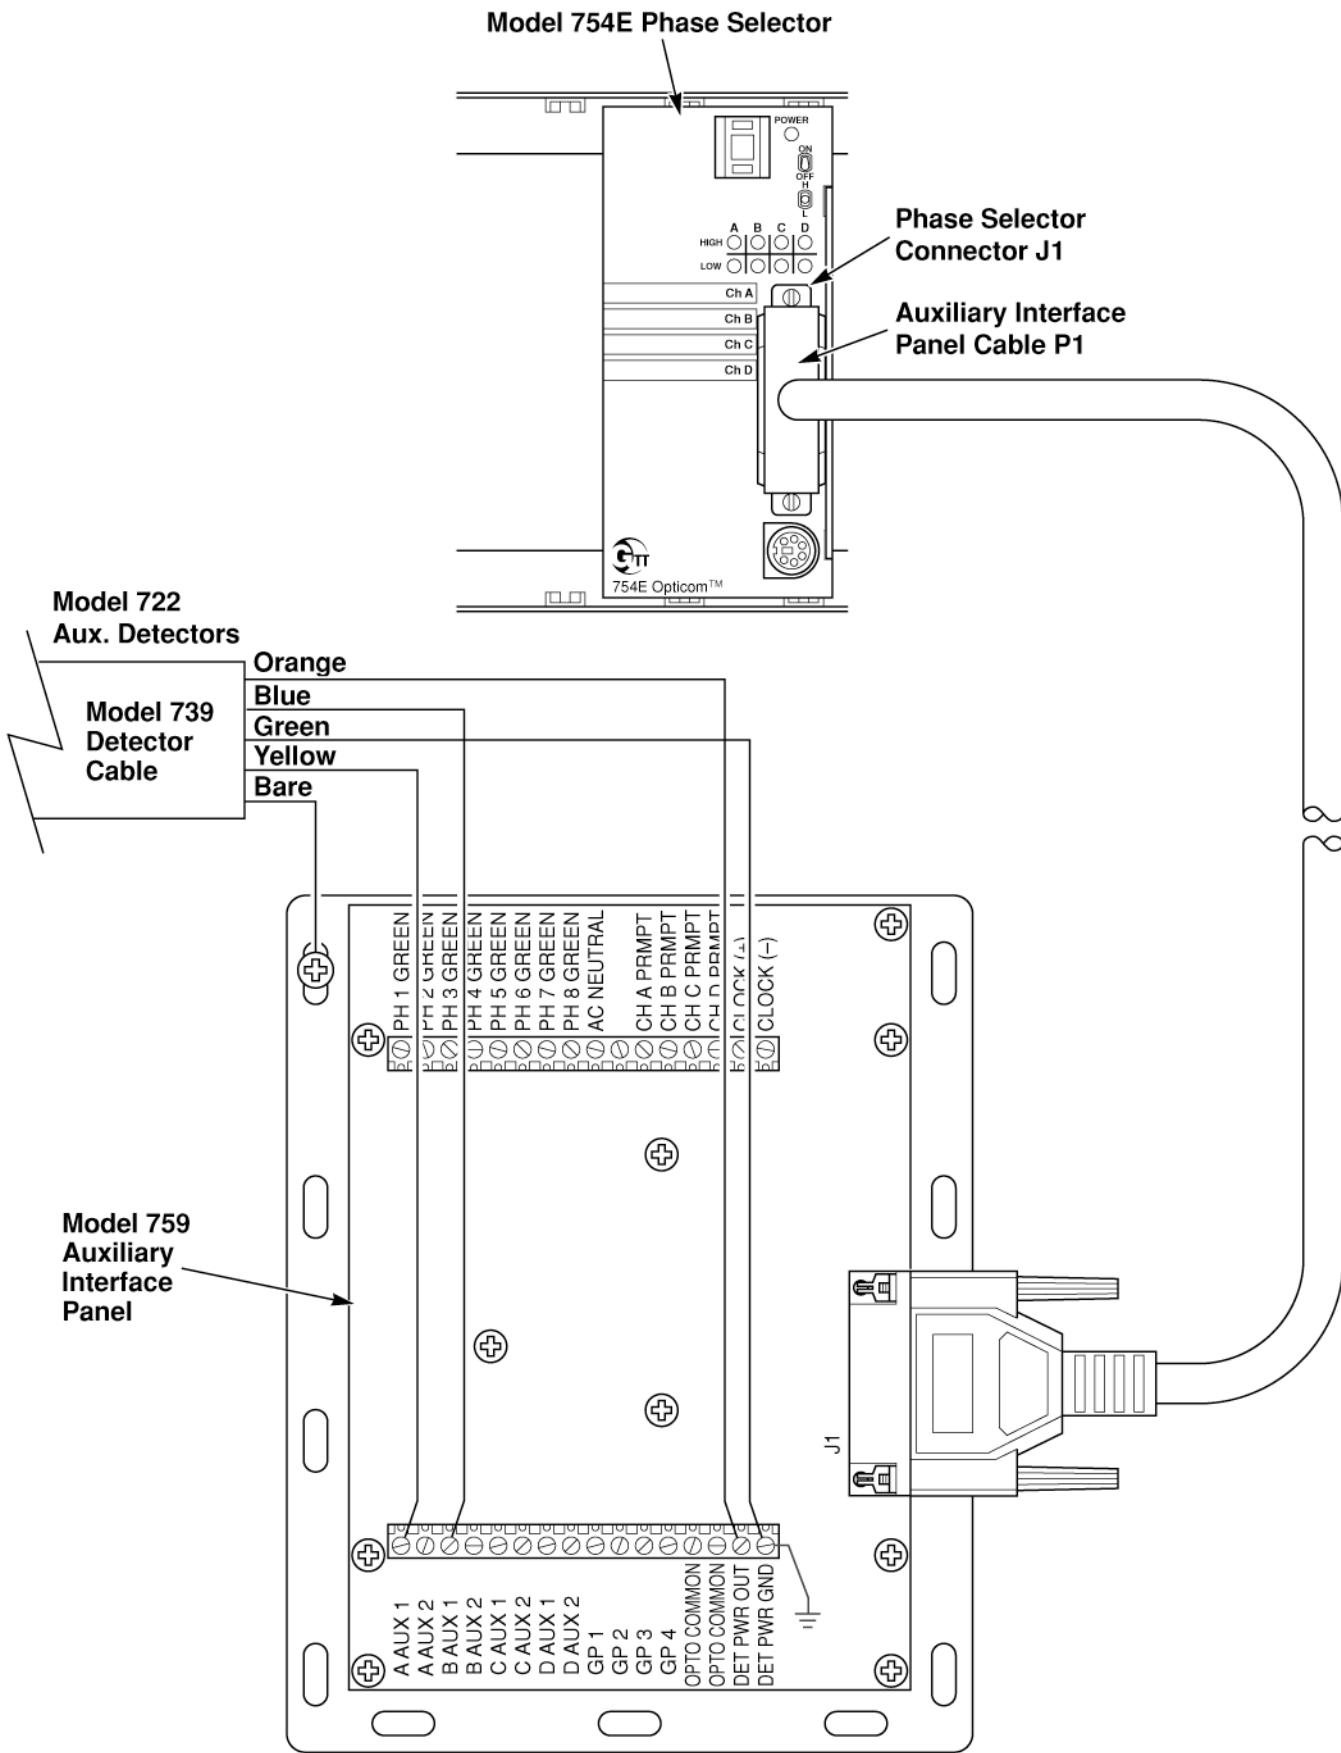

Figure 5-12. Auxiliary Detector Connections for Dual Channel
7. For Opticom™ Infrared System Model 722 Detectors, make the following connections. See Figure 5-12.